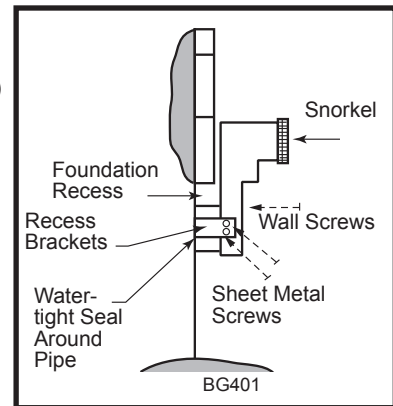

**Fig. 30** Below grade installation.
2. Remove soil to a depth of approximately 16" (406 mm) below base of snorkel. Install drain pipe. Install window well (not supplied). Refill hole with 12" (305 mm) of coarse gravel leaving a clearance of approximately 4" (102 mm) below snorkel. (Fig. 30)
7. Level the soil to maintain a 4" (102 mm) clearance below snorkel. (Fig. 30)